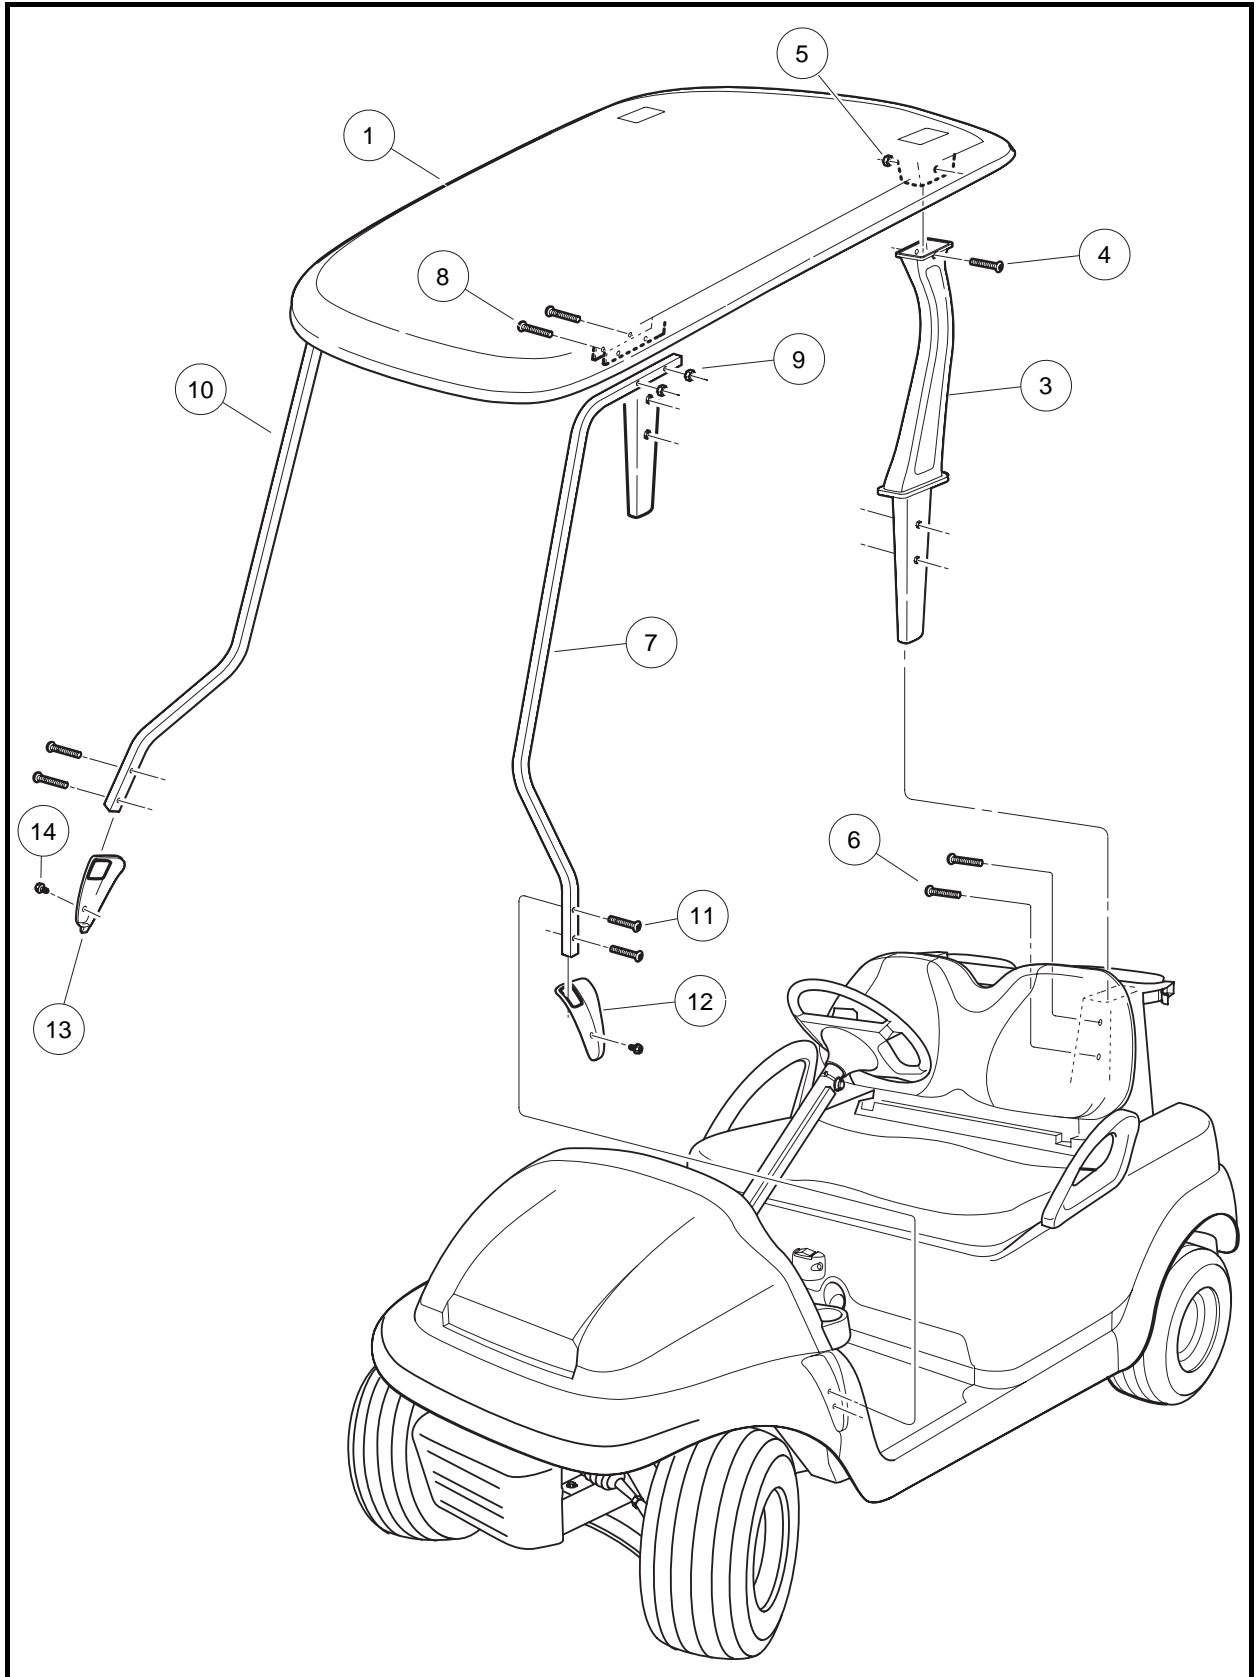

Figure 4-12 Precedent Two-Passenger Canopy
- To prevent damage to the canopy, do not remove the canopy supports (3, 7, and 10) from the vehicle without first removing the canopy (1) **(Figure 4-12, Page 4-17)**.
1. Remove the two nuts (9) and two bolts (8) from the canopy (1) and each front canopy support (7 and 10) **(Figure 4-12, Page 4-17)**.
2. Remove the nuts (5) and bolts (4) from the canopy (1) and each rear support (3).
3. Lift canopy (1) away from front canopy supports (7 and 10) and rear supports (3).
4. Remove screws (14) securing front canopy support covers to front body.
5. Slide canopy support covers (12 and 13) up front canopy supports (7 and 10) to gain access to bolts (11).
6. Remove two bolts (11) from each front canopy support (7 and 10) and remove canopy supports from the vehicle.
7. Remove two bolts (6) from each rear support (3) and pull rear supports from vehicle.
- 1.1. Ensure the front supports are properly oriented to the correct side of the vehicle as shown **(Figure 4-12, Page 4-17)**. The lower profile of each support follows the profile of the vehicle. If the supports are placed on the wrong side of the vehicle, they will not follow the vehicle's profile.